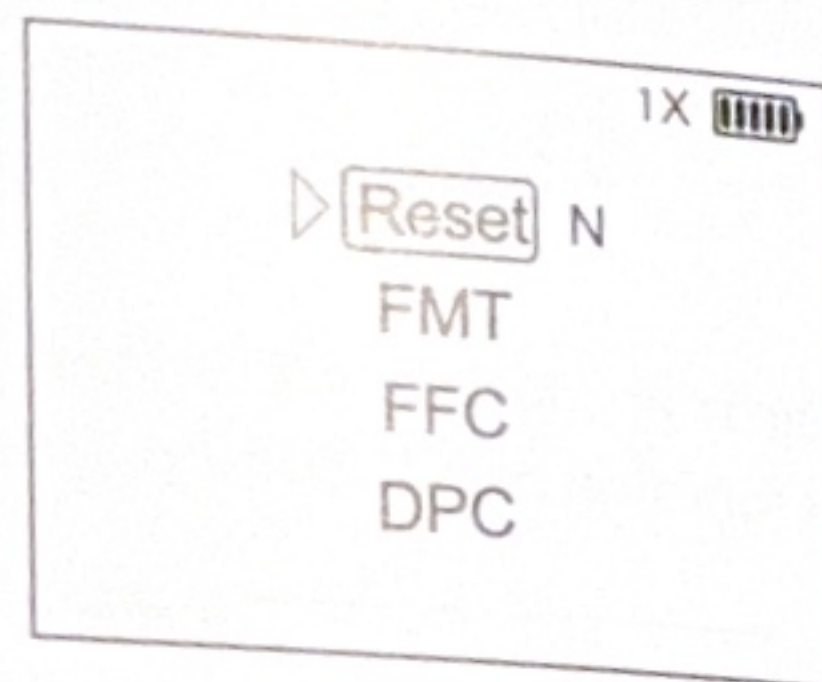

Fig 18
a. Reset the DRS-TH: From the Set menu, press  $\text{OK}$  button to enter Reset. Press the  $\Delta$  and  $\nabla$  buttons to select N or Y. Selecting Y (Yes) will reset the factory settings of the DRS-TH. To exit, press and hold the  $\text{OK}$  button to return to the previous menu. The setting to factory settings will not change the settings made to the Cal menu. (See Figure 18)